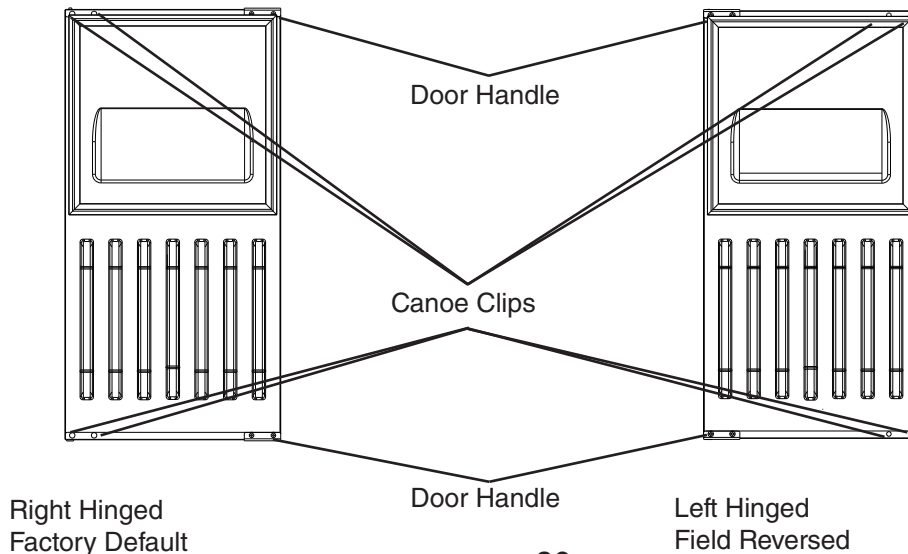

Fig. 23
- 11) Insert the 4 canoe clips included in the accessory bag into the upper and lower holes on the inside of the door opposite from the door handle. See Fig. 23. These holes are provided to allow for door reversal and must be filled when not used.